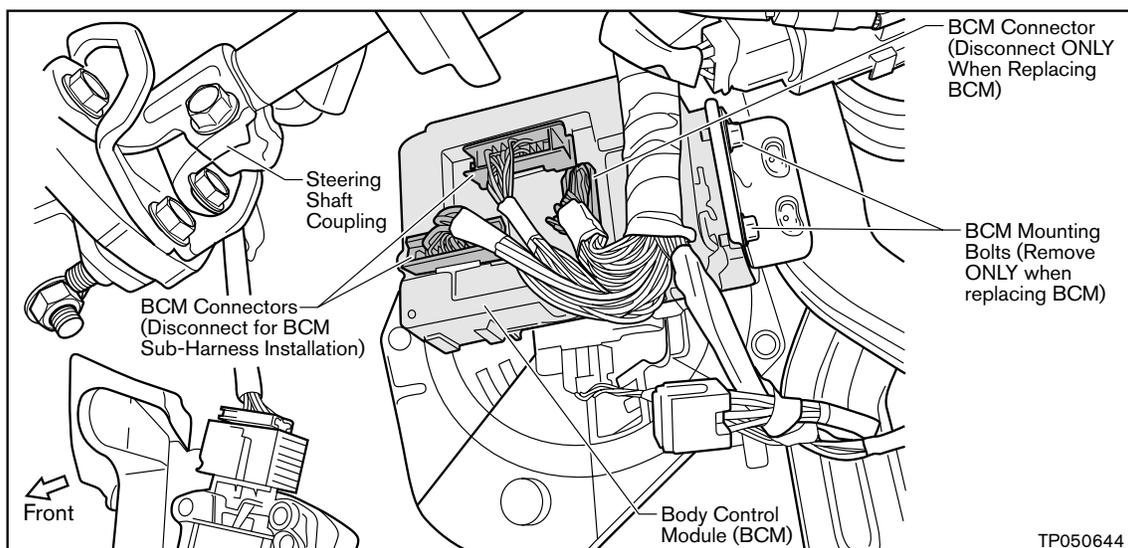

Figure 15
- Remove all three Harness Connectors from the BCM (see Figure 15).
- Remove the two BCM Mounting Bolts and remove BCM (see Figure 15).
- Reconnect the RH connector ONLY (as viewed in Figure 15.)
- Start by disconnecting ONLY the two horizontal Connectors at the BCM (see Figure 15).